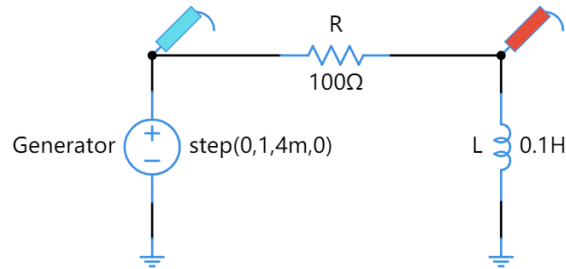

Fig. 9. Circuit configuration for the first-order RL simulation with voltage source.
1. Build a circuit as shown in Fig. 9.
4. Now, you can run the simulation by clicking the icon “TRAN”. In the “TRAN” solver, two “Voltage Probes” should be put at the two ends of the resistor, as shown in Fig. 9. You should find a suitable stop time (for example 0.02s) for your simulated results.